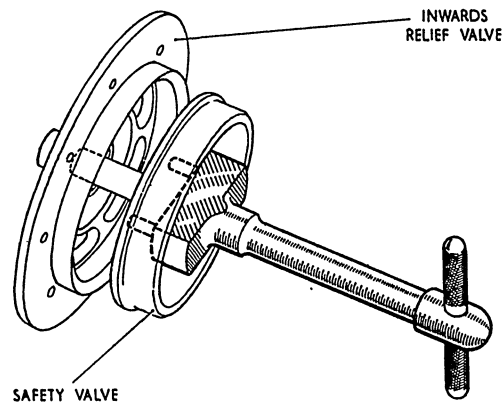

Fig. 11. Peg spanner ST.5007
(1) *Safety valve.*—Examine the head of the safety valve and the seating on the inwards relief valve for nicks and burrs. Lap the valve on to its seating, supporting the valve head with the peg spanner ST.5007 (fig. 11). Use fine grinding paste for lapping the valve and metal polish for the final finish. Inspect the safety valve stem and guide in accordance with the schedule of fits and clearances (Table 1).